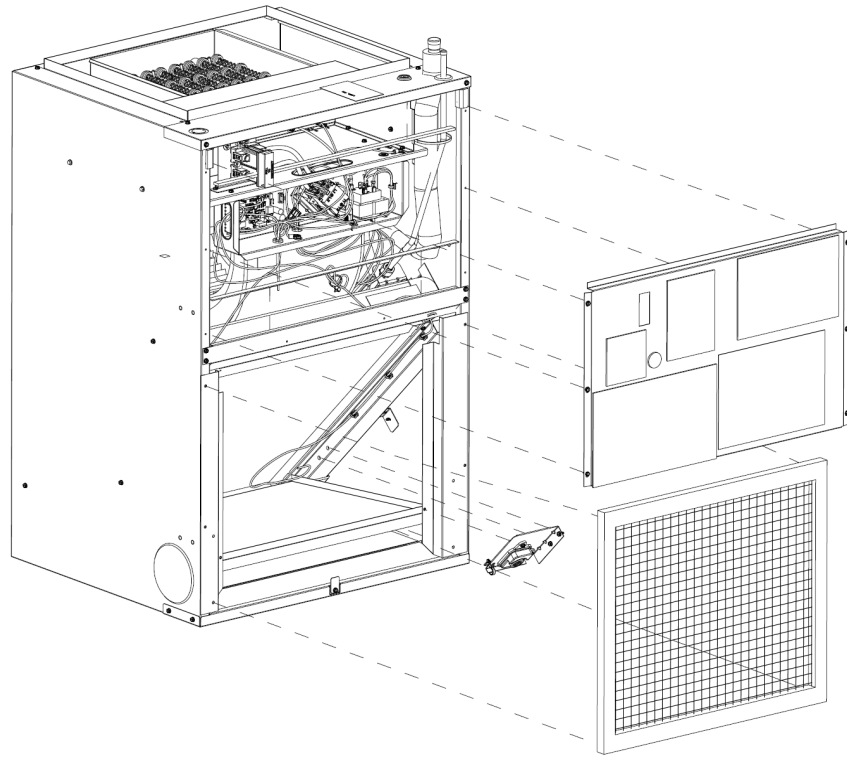

Figure 6
Servicing: Before servicing identify the Mode of operation of the system by reading the LED flashing pattern on the PCB which can be seen through the round glass view on top access panel and matching the LED flashing pattern with mode of operation in A2L PCB fault code label which is attached on the front side of the blower access panel (Figure 6 and 7). After identifying the mode of operation take recommended actions as specified in Table 8.
2. Remove the pin connecting the sensor cable on the PCB as shown in figures 6 and 7. Remove the filter from the air handler based on the following:
4. Place the R-32 sensor wire as shown in figures 6 and 7 and use the cable tie to secure and tie the R-32 sensor wire. Cut the edge of the cable tie.
- Plate the filter as shown in the figure 6.